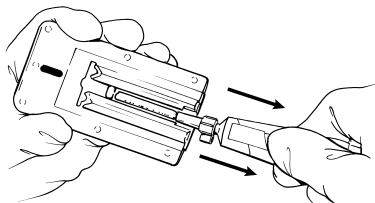

FIGURE 4
- 6a. Apply a continuous thin Gel bead onto each strip (See figure 4).